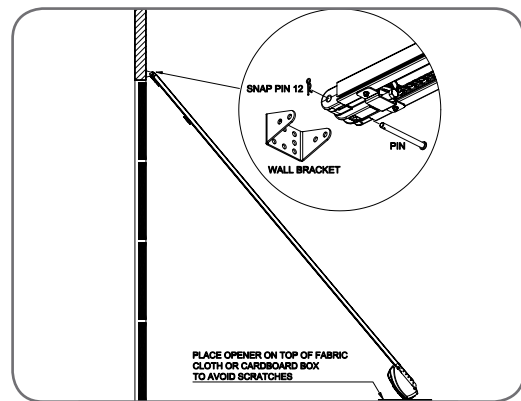

Fig. 15
- Attach the C-Rail assembly to the wall bracket with the 90mm long clevis pin and secure with the supplied snap pin (Fig. 15).